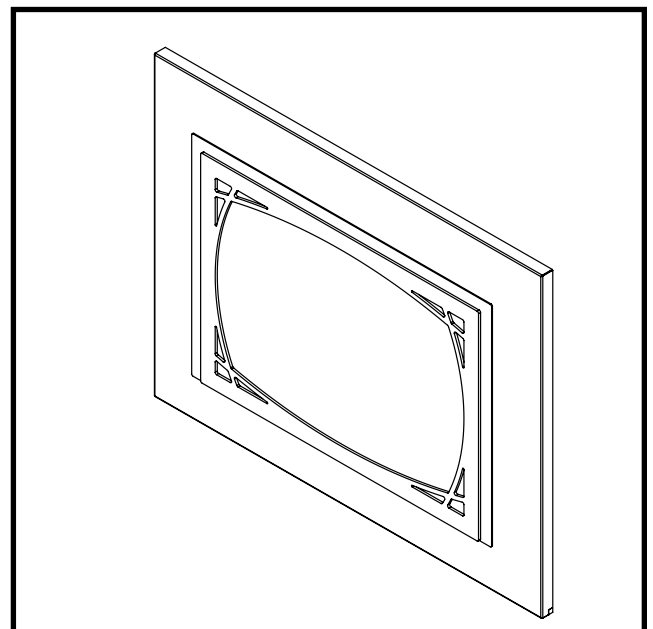

Figure 125: Artisan front and trim assembled to backing plate.
3. Mount the Artisan Front and the trim piece onto the backing plate as shown in Figure 125.